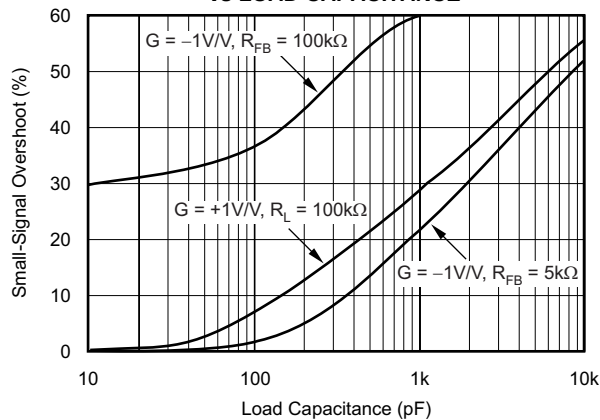
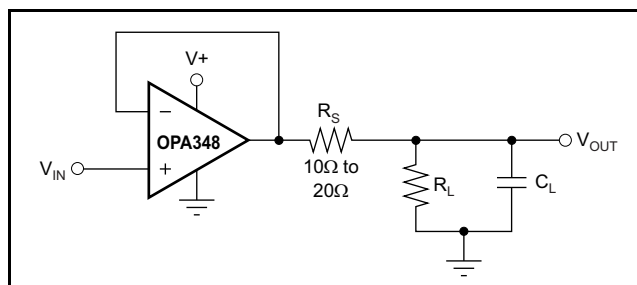
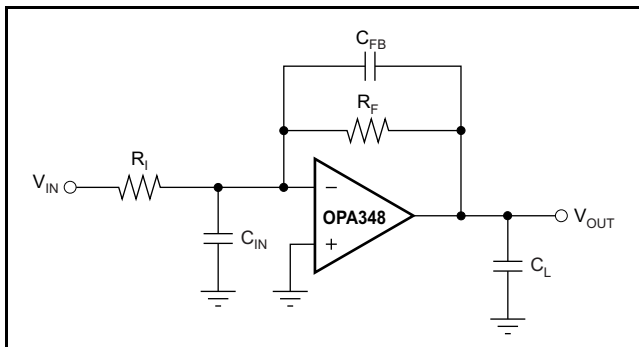

Figure 13.
Figure 23. Series Resistor in Unity-Gain Buffer Configuration Improves Capacitive Load Drive
Figure 24. Improving Capacitive Load Drive
The OPA348 in a unity-gain configuration can directly drive up to 250pF pure capacitive load. Increasing the gain enhances the amplifier's ability to drive greater capacitive loads (see the typical characteristic *Small-Signal Overshoot vs Capacitive Load*, Figure 13). In unity-gain configurations, capacitive load drive can be improved by inserting a small (10Ω to 20Ω) resistor, R_S , in series with the output, as shown in Figure 23. This significantly reduces ringing while maintaining DC performance for purely capacitive loads. However, if there is a resistive load in parallel with the capacitive load, a voltage divider is created, introducing a Direct Current (DC) error at the output and slightly reducing the output swing. The error introduced is proportional to the ratio R_S/R_L , and is generally negligible.
In unity-gain inverter configuration, phase margin can be reduced by the reaction between the capacitance at the op amp input, and the gain setting resistors, thus degrading capacitive load drive. Best performance is achieved by using small valued resistors. For example, when driving a 500pF load, reducing the resistor values from 100k Ω to 5k Ω decreases overshoot from 55% to 13% (see the typical characteristic *Small-Signal Overshoot vs Load Capacitance*, Figure 13). However, when large valued resistors cannot be avoided, a small (4pF to 6pF) capacitor, C_{FB} , can be inserted in the feedback, as shown in Figure 24. This significantly reduces overshoot by compensating the effect of capacitance, C_{IN} , which includes the amplifier's input capacitance and PC board parasitic capacitance.